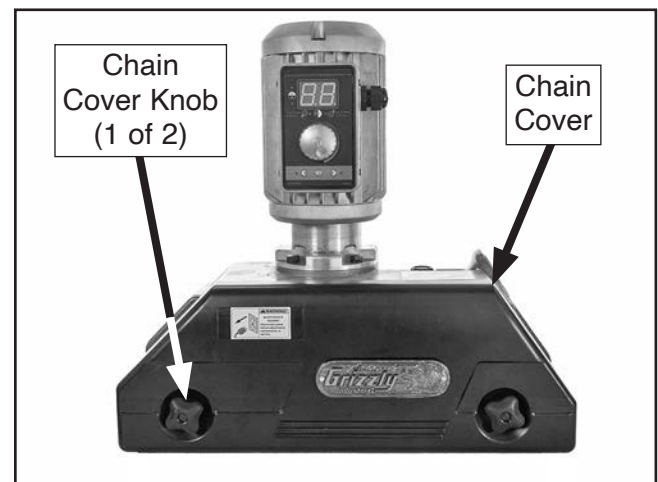

Figure 21. Chain cover and knobs.
3. Remove (2) chain cover knobs and chain cover (see **Figure 21**).